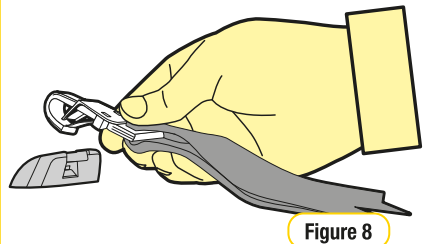

Figure 8
**Step 6:** Hook the attachment clip to the upper anchor fitting (refer Figure 8).